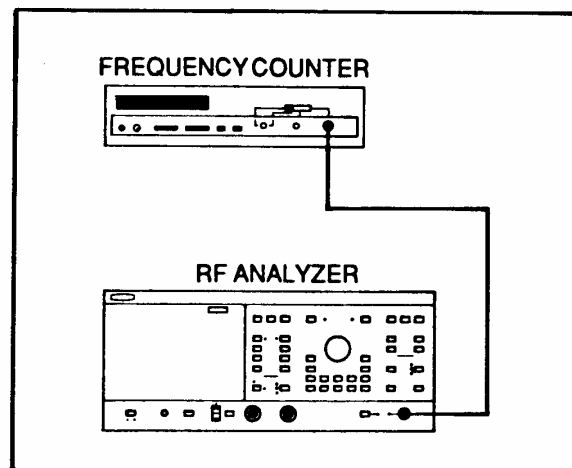

Figure 6-4. Main Tuning Coil Calibration Test Setup
8. Connect the frequency counter to the output of the RF Analyzer as shown in Figure 6-4.